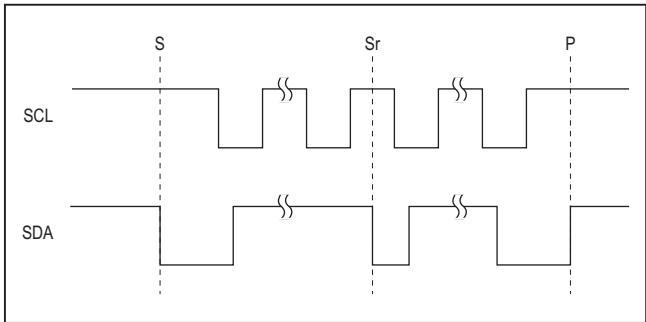

Figure 6. I²C START, STOP and REPEATED START Conditions
When writing to the MAX14690_ using I²C, the master sends a START condition (S) followed by the MAX14690_ I²C address. After the address, the master sends the register address of the register that is to be programmed. The master then ends communication by issuing a STOP condition (P) to relinquish control of the bus, or a REPEATED START condition (Sr) to communicate to another I²C slave. See Figure 6.